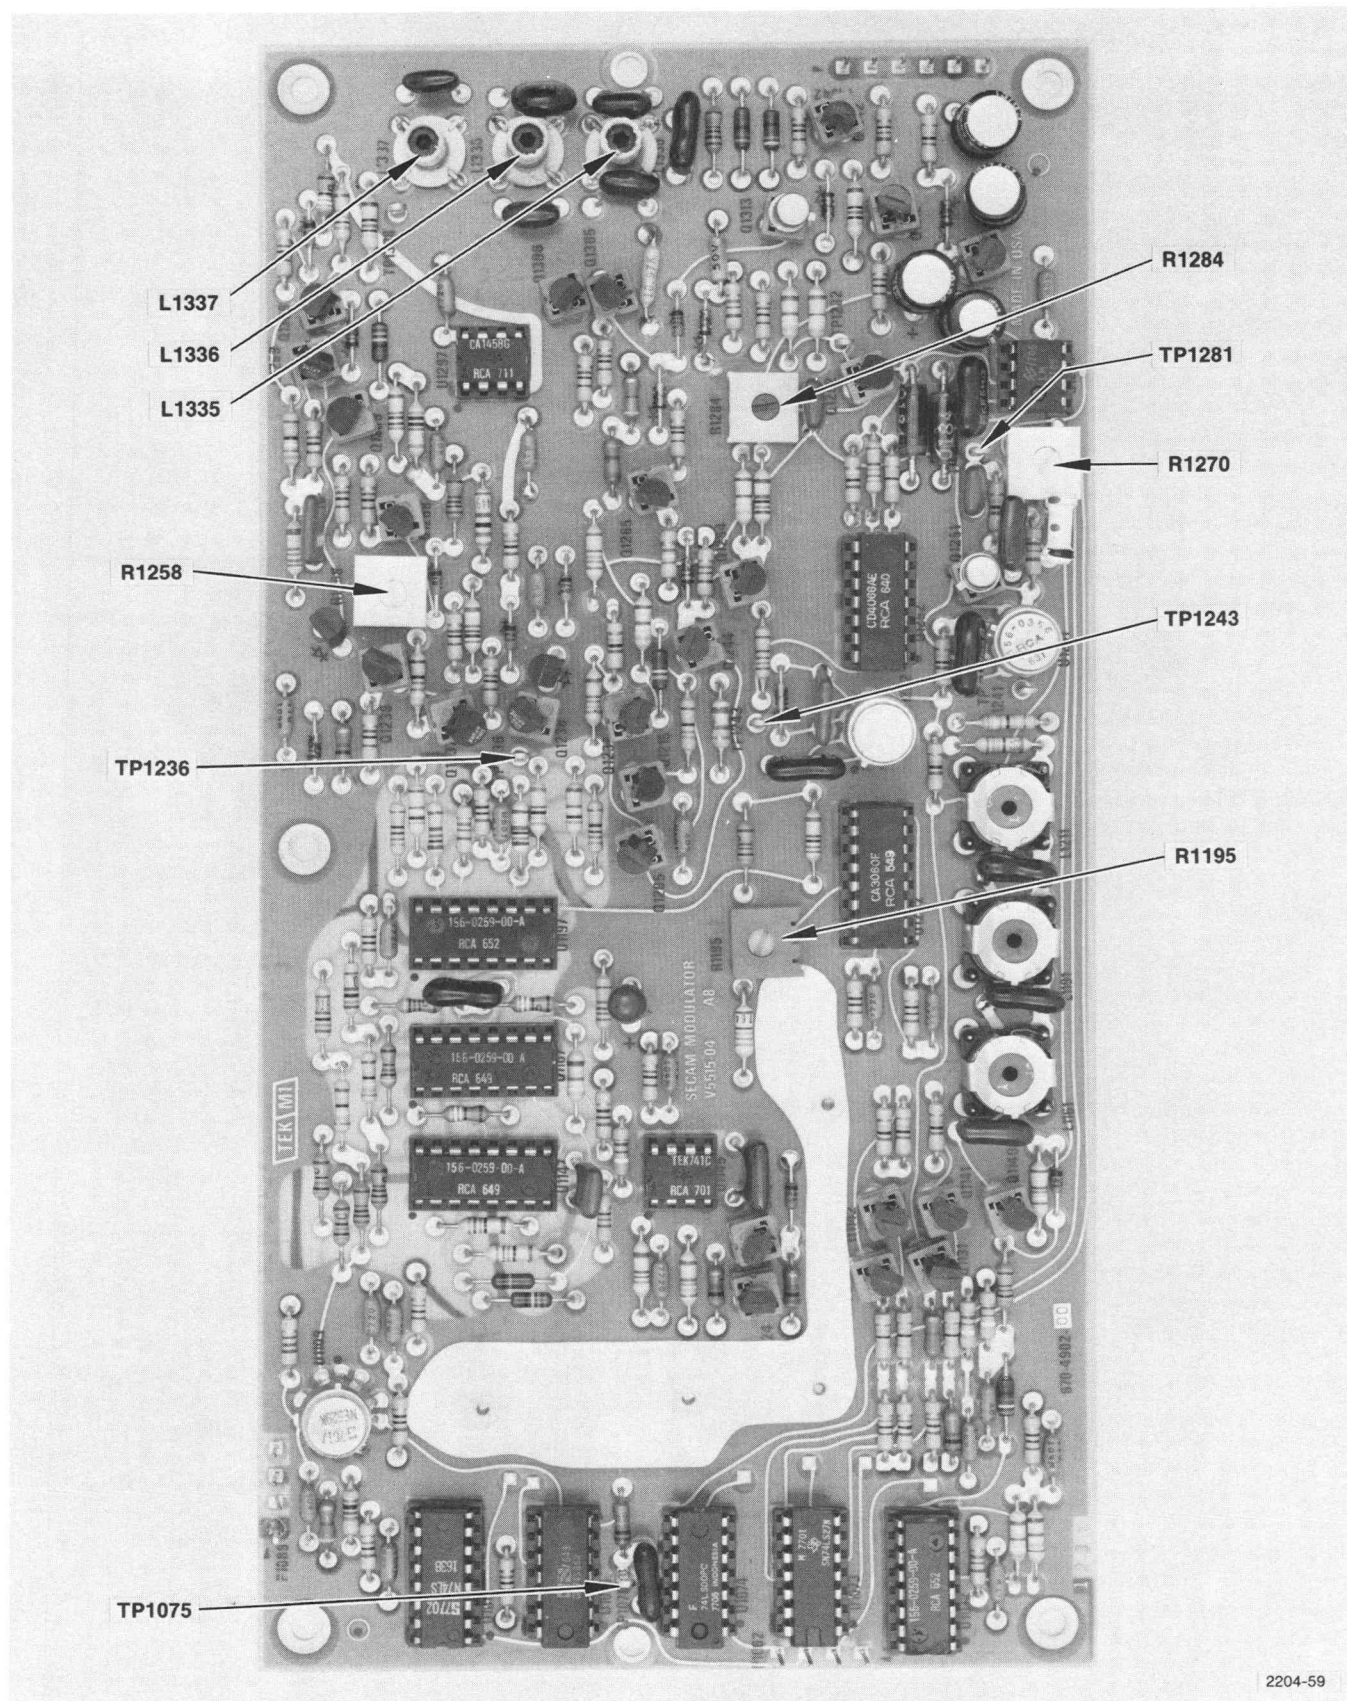

Fig. 6-12. Modulator Circuit Board.
a. Connect the test oscilloscope probe to TP1236, (Fig. 6-12).
e. ADJUST—Pre-Emphasis Bandwidth, L1335, L1336, and L1337, (Fig. 6-12) for optimum transient response (square corners on the transitions).
a. Connect the test oscilloscope probe to TP1075, on the Modulator board (see Fig. 6-12).
e. ADJUST Error Tilt, R1270, (Fig. 6-12) for the flattest waveform.
a. Connect the test oscilloscope probe to TP1281 on the Modulator board, see Fig. 6-12.
d. ADJUST—Error Centering, R1284, (Fig. 6-12) to balance the waveform.
d. ADJUST—D'B Adj. R1195, (Fig. 6-12) on the Modulator board for a D'B Field Identification signal frequency of 3.9000 MHz \pm 5.5 kHz.
c. ADJUST—D'R Adj. R1258, (Fig. 6-12) on the Modulator board for a D'R Field Identification signal frequency of 4.7563 MHz \pm 5.5 kHz.
a. Connect the test oscilloscope probe to TP1243 on the Modulator board. See Fig. 6-12.